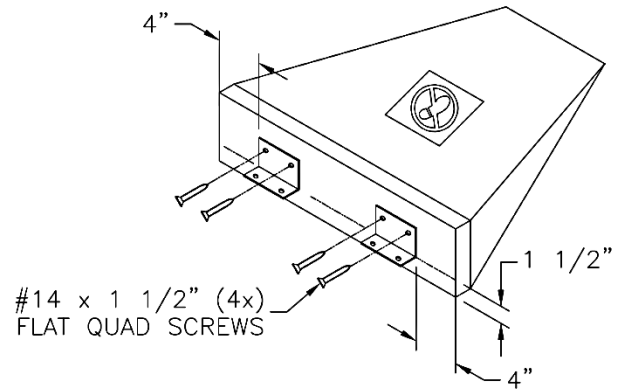

FIG. 11A
- Measure 1-1/2" above bottom of each pad (Figure 11a).